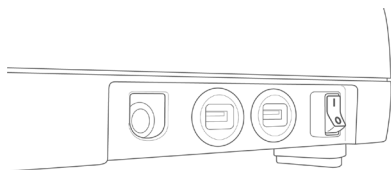

Fig. 12. Genesis System back panel.
1. Power on the Genesis System using the switch found on the back bottom left corner of the instrument (Figure 12).